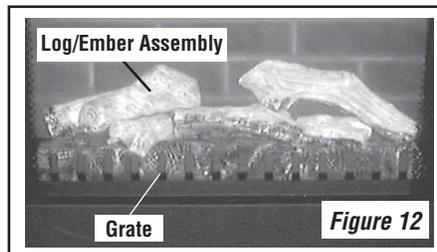

Figure 12
4. Remove the 2 screws on the front of the grate (see **Figure 12**. Also see item #7 on **Page 17**). Remove Grate.